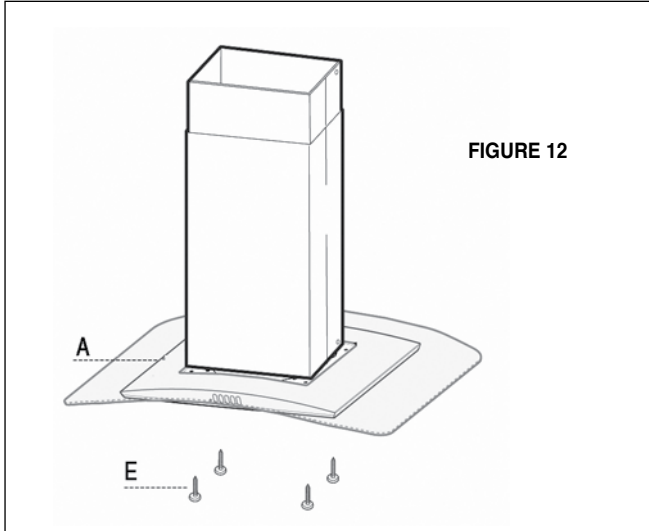

FIGURE 12
4. From below, attach the CANOPY SECTION (A in FIGURE 12) to the assembled chimney support using the four bolts provided (E in FIGURE 12).